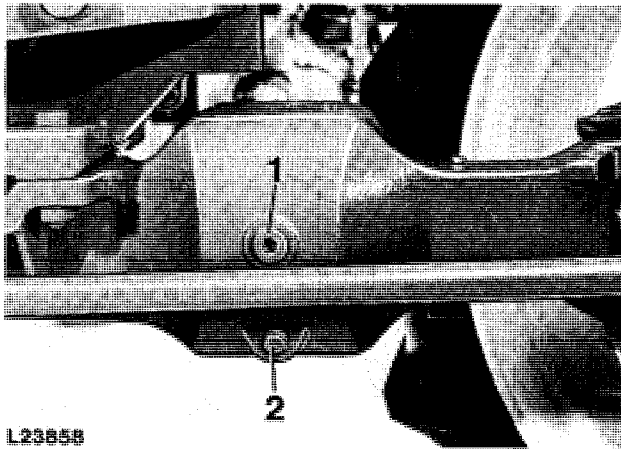

Fig. 20 — Axle Housing Oil Level
1. Remove drain plug 2 (fig. 20 or 21) and drain oil.